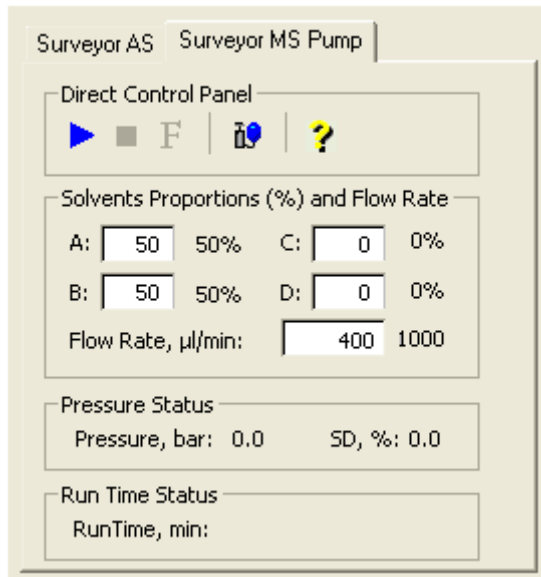

Figure 8-6. Inlet Direct Control view, showing pump Off
- a. On the Control / Scan Mode toolbar, click on the AS/LC Direct Control button to display the Inlet Direct Control view in the top right corner of the workspace. See Figure 8-6.